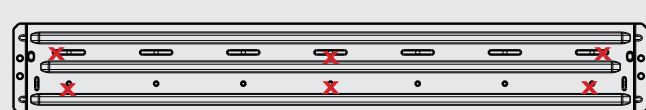

Fig. 7
8. Six fixing positions must be selected for ALL models QM050RF, QM070RF, QM100RF, QM125RF and QM150RF. Fig. 7.